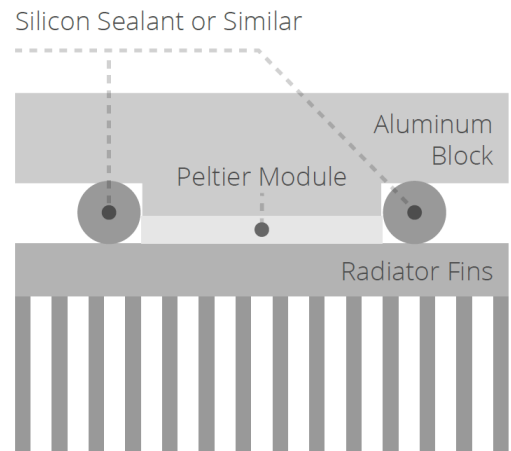

FIGURE 7. HUMIDITY PROTECTION FOR THE PELTIER MODULE PERIMETER
- 11) As a protection against humidity, seal the perimeter of the Peltier Module with a silicon sealant or similar and allow to dry for the requisite time. **(figure 7)**